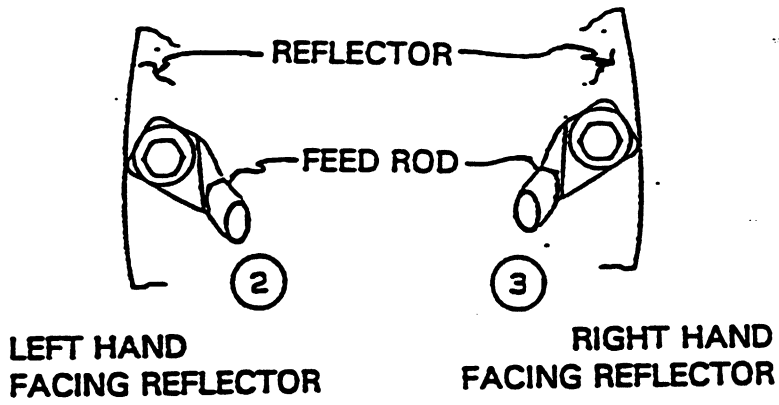
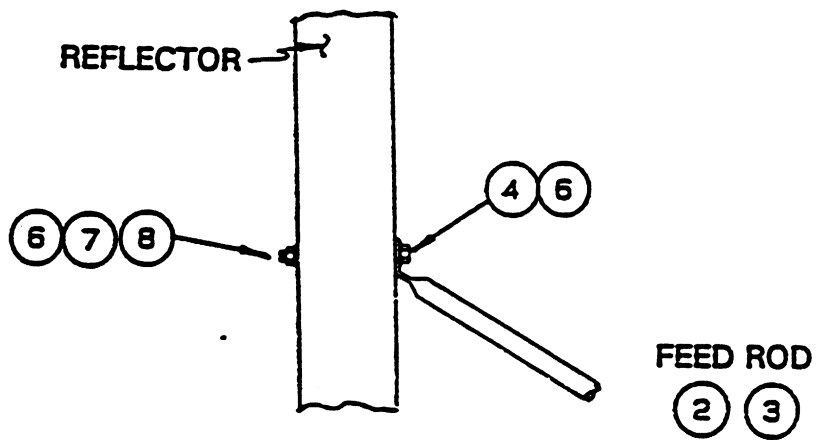

FIGURE 3.0
FIGURE 3.0-1
1. Attach the right and left hand feed rods loosely to the reflector with 5/16-18 x 3.75" bolts, flat washers, lock washers and nuts. Reference Figure 3.0 and Figure 3.0-1.